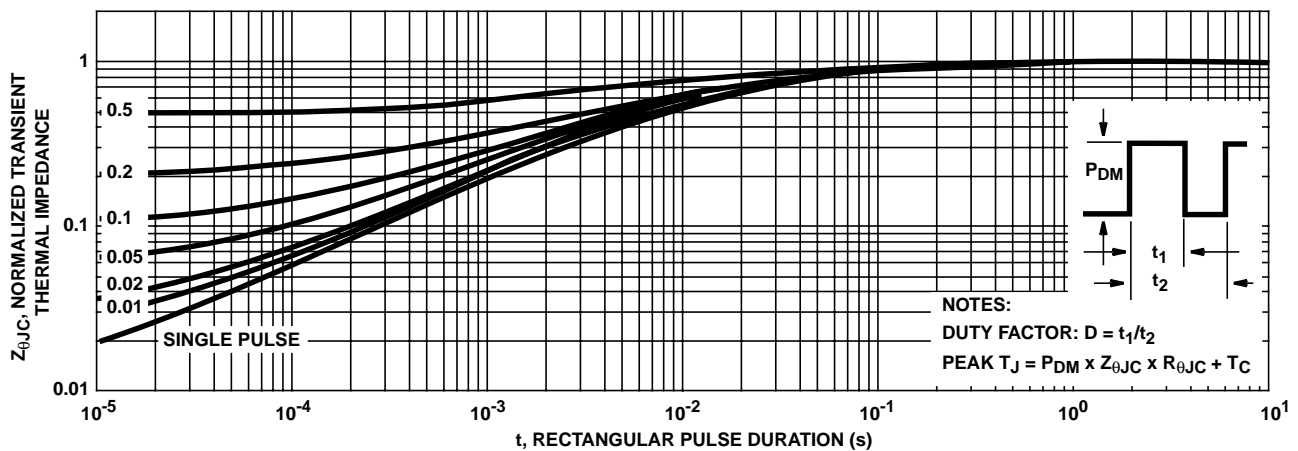

FIGURE 3. NORMALIZED MAXIMUM TRANSIENT THERMAL IMPEDANCE
Pulsed Drain Current (Figures 3, 5) (Note 3) . . . . .	Refer to Peak Current Curve
3. Repetitive rating: pulse width limited by maximum junction temperature. See Transient Thermal Impedance curve (Figure 3).